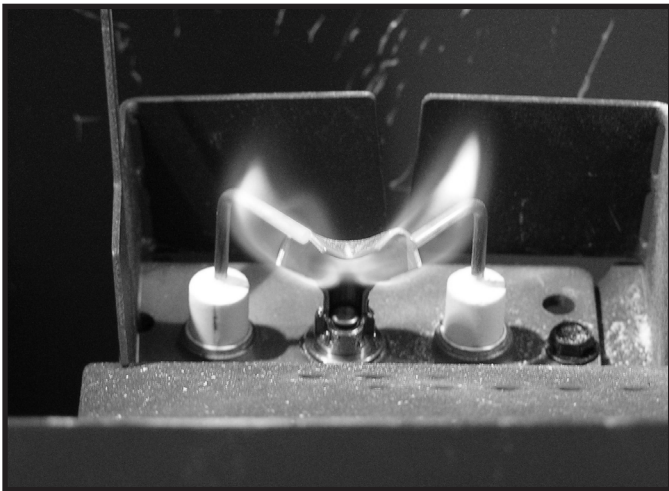

Figure 4.1 IPI Pilot Flame Patterns
- Inspect pilot flame pattern and strength. See Figures 4.1 for proper pilot flame pattern. Clean or replace orifice spud as necessary.